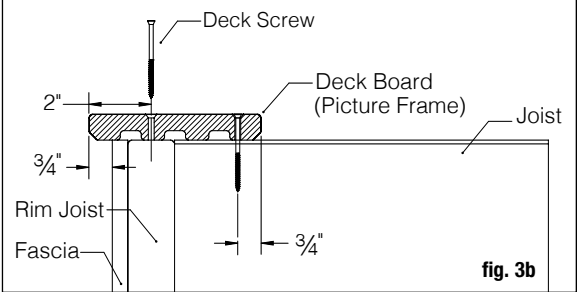

fig. 3b
B) Picture Frame Surface Fastening: Use two fasteners per deck board. It is required that the screw into the Rim Joist be placed either 3/4" or 2" from the edge of the deck board. The screw into the Joist must be 3/4" from the edge of the board (fig. 3b) to ensure screws are in the thickest lobed area.